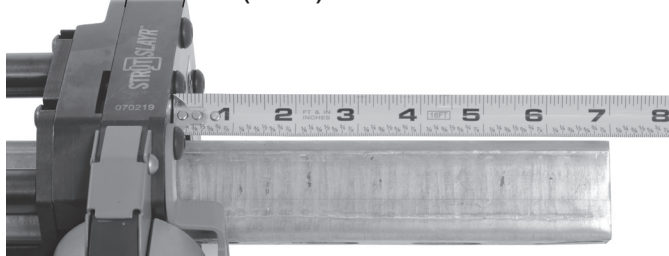

Figure 6B– Measuring Strut Length
- Add 1" (25 mm) to sideplate – strut end measurement (Figure 6B).